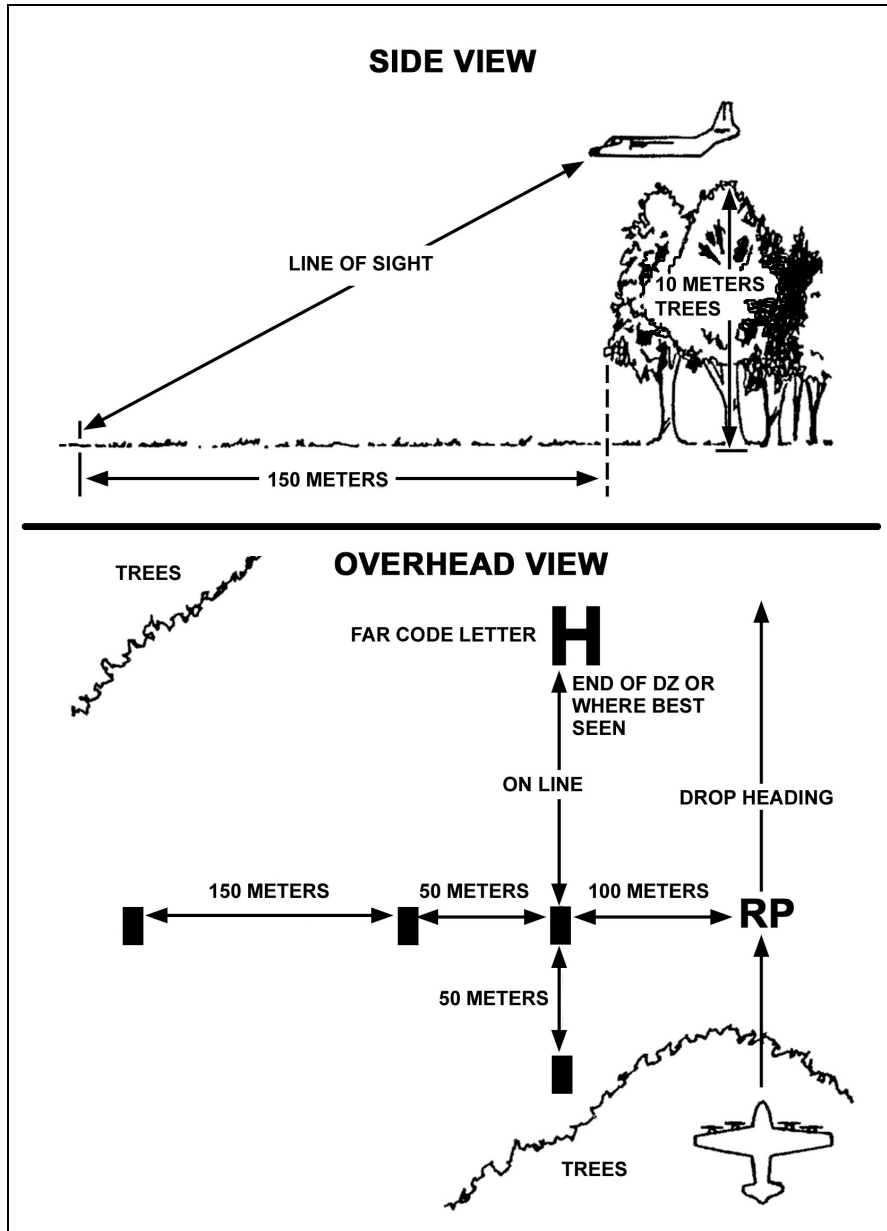

Figure 6-9. The 15-to-1 mask clearance ratio.
c. **Drop Zone Support Team.** Place the markings where obstacles will not mask the pilot’s line of sight. As a guide, use a mask-clearance ratio of 1 to 15 units of horizontal clearance (Figure 6-9, page 6-23).